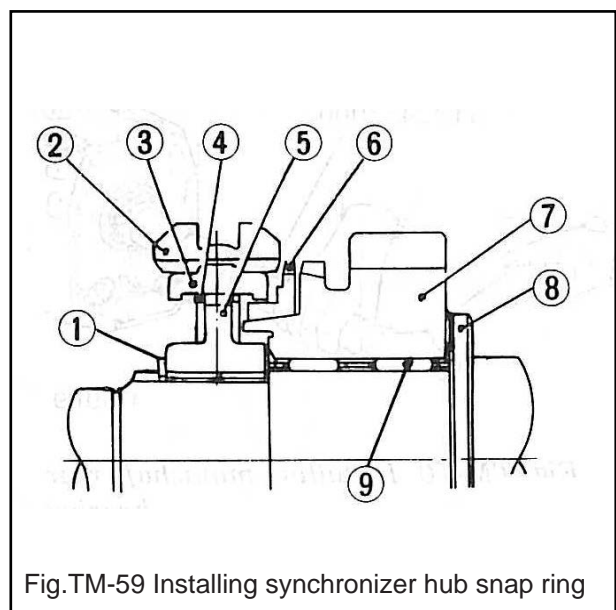

Fig.TM-59 Installing synchronizer hub snap ring
2.Install 3rd gear needle roller bearing 3rd gear, baulk ring and 3rd & 4th synchromesh assembly onto main shaft, and fit a snap ring in the groove on the front end of main shaft. See Figure TM-59.